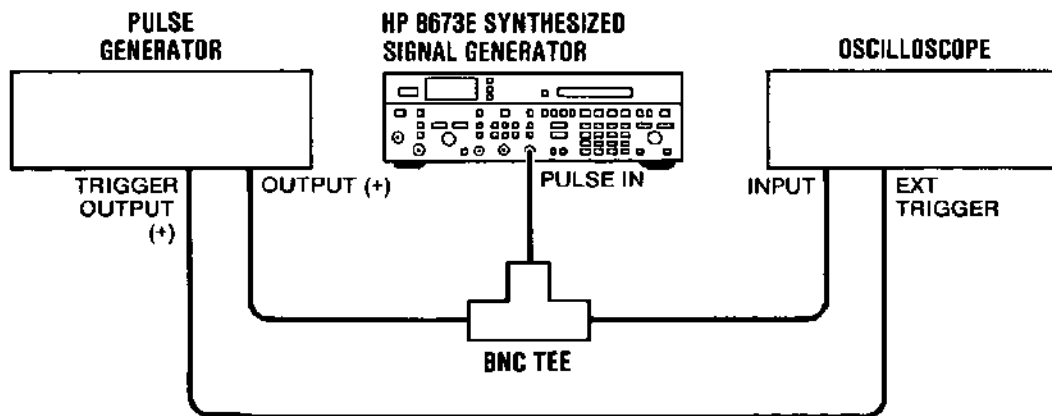

Figure 8-45. Pulse Modulation Check Setup
12. Connect test equipment as shown in Figure 8-45.